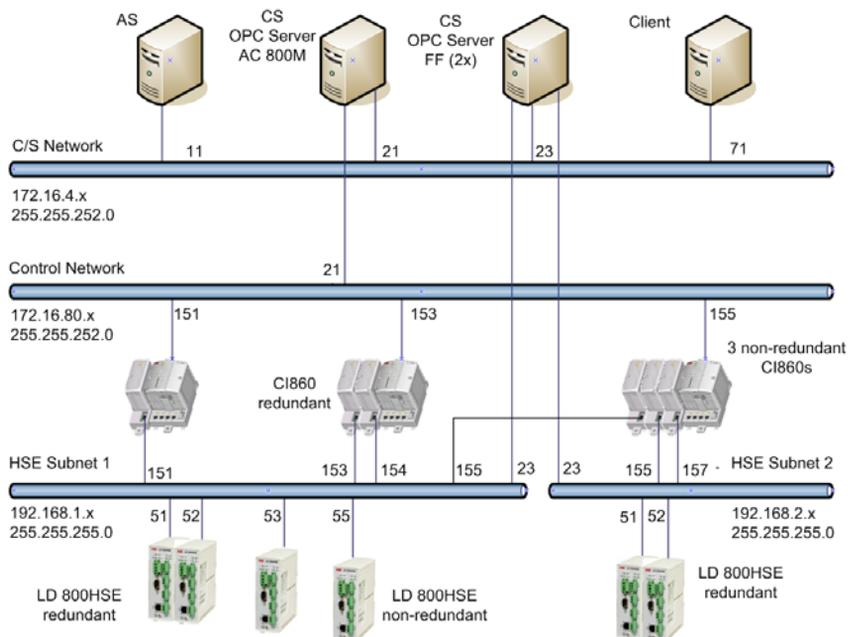
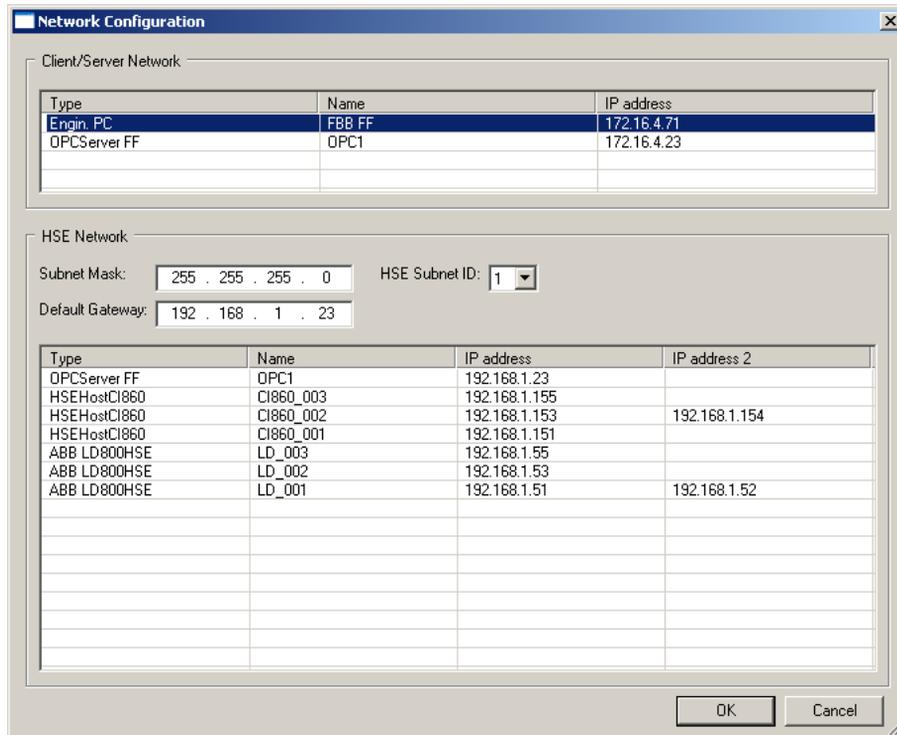

Figure 5. System 800xA network topology
Figure 7. Network Configuration Dialog of Fieldbus Builder FF
Figure 5 gives an overview of a common 800xA network topology with FOUNDATION Fieldbus. The recommended NetIDs and Subnet Masks for the different Networks are shown in Table 16.
For detailed information about the recommended IP addresses and Node numbers for the nodes of a 800xA network as in Figure 5 as well as for informations concerning the network layout refer to *System 800xA Network Configuration (3BSE034463*)*.
One HSE subnet can have multiple HSEHostCI860 objects which are connected to CI860 modules of different AC 800M controller (see Figure 5). To ensure a proper communication between one HSE Subnet and CI860 module(s), every involved component must have a unique IP address (this includes also redundant CI860 modules). Then, it is described how to configure these unique IP address(es) for the CI860.
The Network Configuration dialog of FBB FF shows the network settings of all configured FF Objects of the Client/Server and the HSE Network. Figure 7 shows this dialog with the network configuration for the HSE Subnet 1 from Figure 5. Next to the centralized overview of the network settings this dialog allows changes at the configuration.
3. The icon changes to the redundancy icon and the text is updated with backup position within parenthesis (see Figure 7 on page 47).